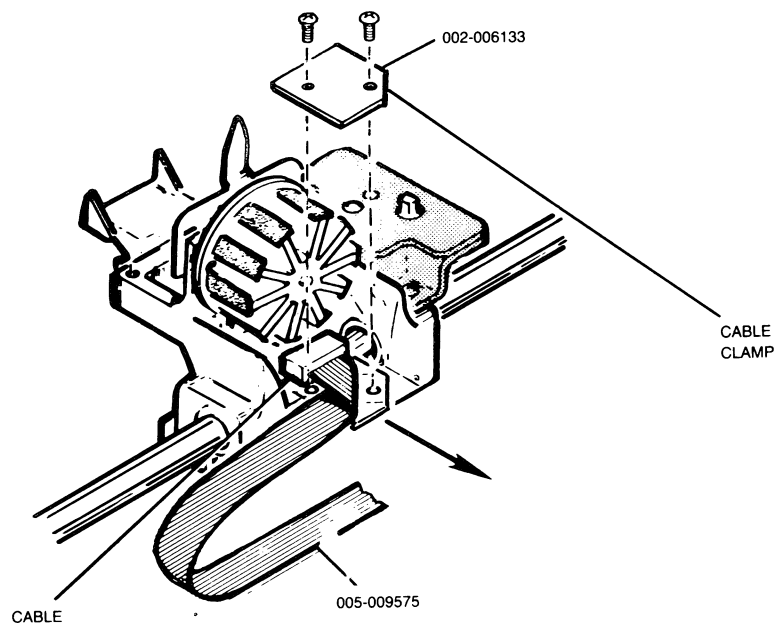

Figure 5.4 Printhead Cable Clamp Removal
5. Remove the two screws and cable clamp as shown in figure 5.4.